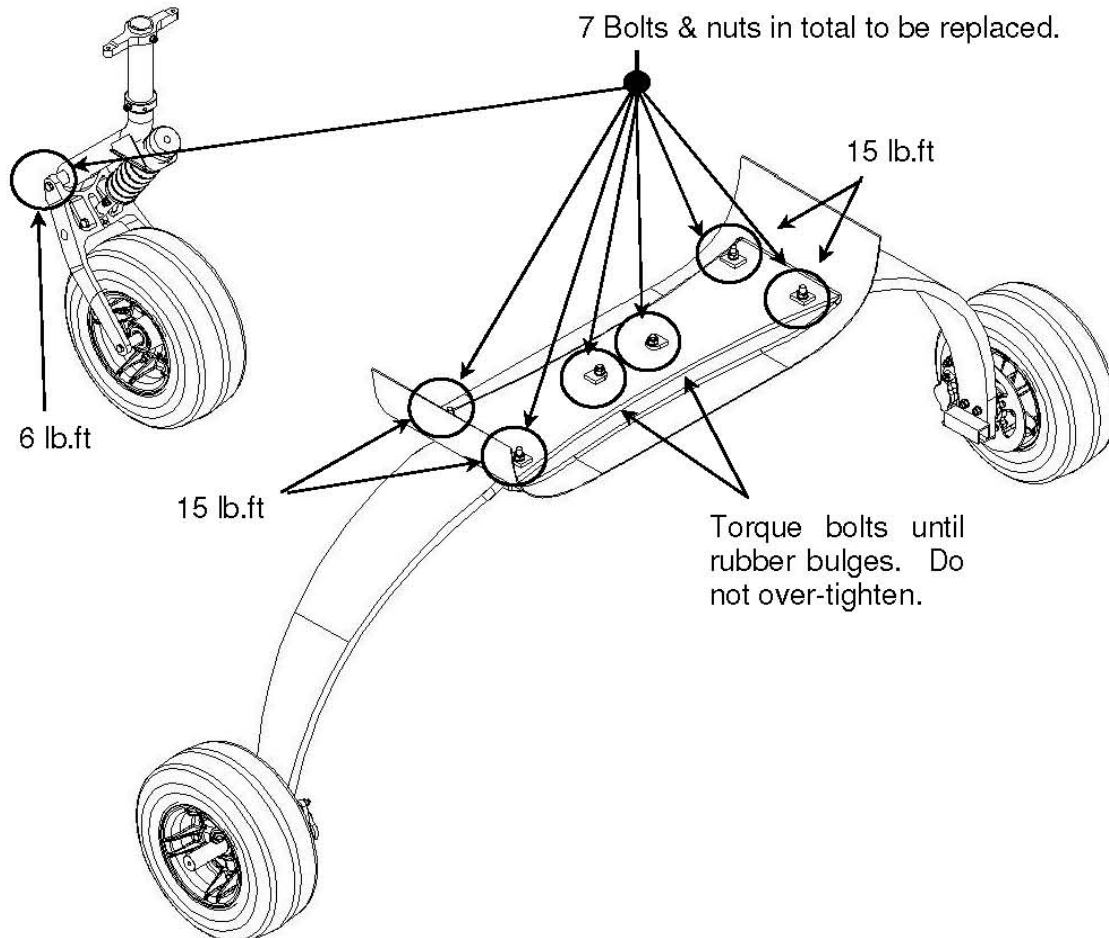

Figure 1 – Undercarriage
- Bolts and nuts used in the positions shown in Figure 1 are to be replaced at the first 100 hour inspection or annual condition inspection after 500 hours Time In Service (TIS).
- Figure 1 shows a general schematic of a tricycle undercarriage for a Jabiru Aircraft. The bolts which are to be replaced are indicated. While there are detail differences between Jabiru models all have the same general layout and have the same critical 7 bolts which are to be replaced.